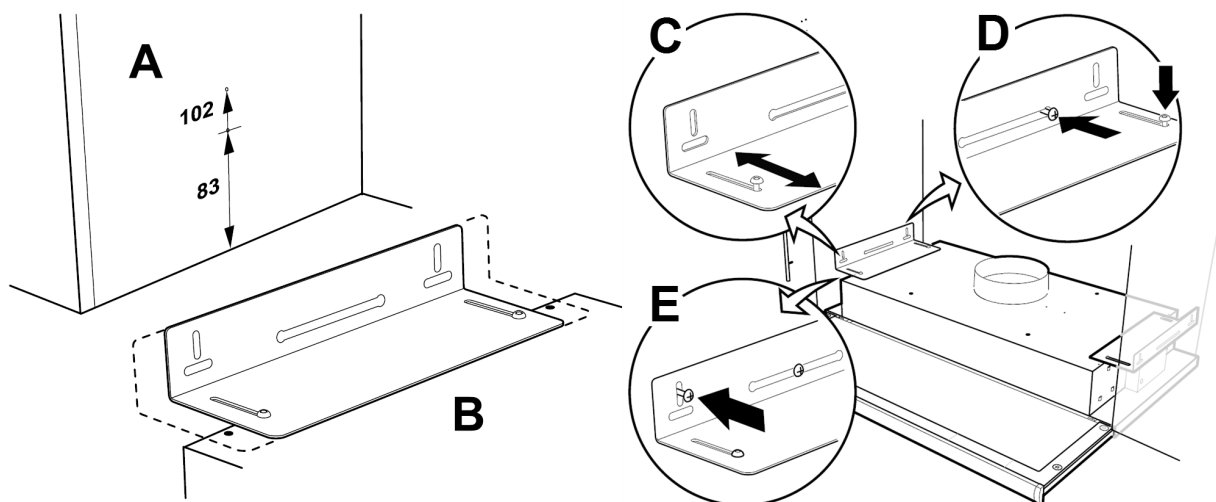

Fig. 14 Installation using brackets
Mark out and fasten screws so that they protrude a few millimetres from both cupboard sides (figure 14, pos. A). If it is intended to align the underside of the cooker hood with the underside of the row of cupboards, use the upper measurement 102; see figure 14, pos. A. The cooker hood brackets are adjustable to fit various cupboard depths (figure 14, pos. B).
2. Move the cooker hood brackets without fully tightening the screws and adjust the brackets so that they fit the sides of the cupboards (figure 14, pos. C). Hang the cooker hood in the pre-installed screws in the side of the cupboard. Tighten the screws in the bracket and on the wall (figure 14, pos. D). Lock the brackets into position using the locking screws (figure 14, pos. E).